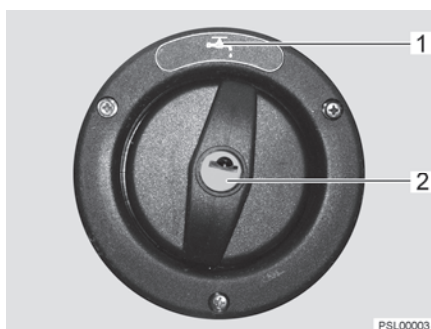

Fig. 90 Cap for the drinking water filler neck
The drinking water filler neck is indicated by the symbol "🚰" (Fig. 90,1). The cap is opened and closed using the key for the external flap locks.
- Insert key into locking cylinder (Fig. 90,2) and turn a quarter turn in an anticlockwise direction.
- Open drinking water filler neck (Fig. 90).